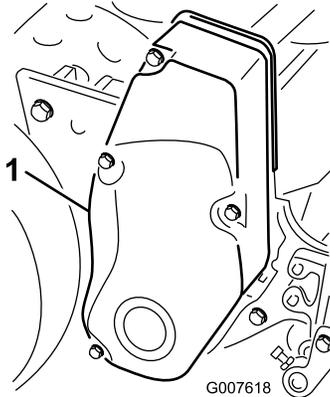

Figure 34
1. Remove the belt cover mounting fasteners and belt cover to expose the belt (Figure 34).